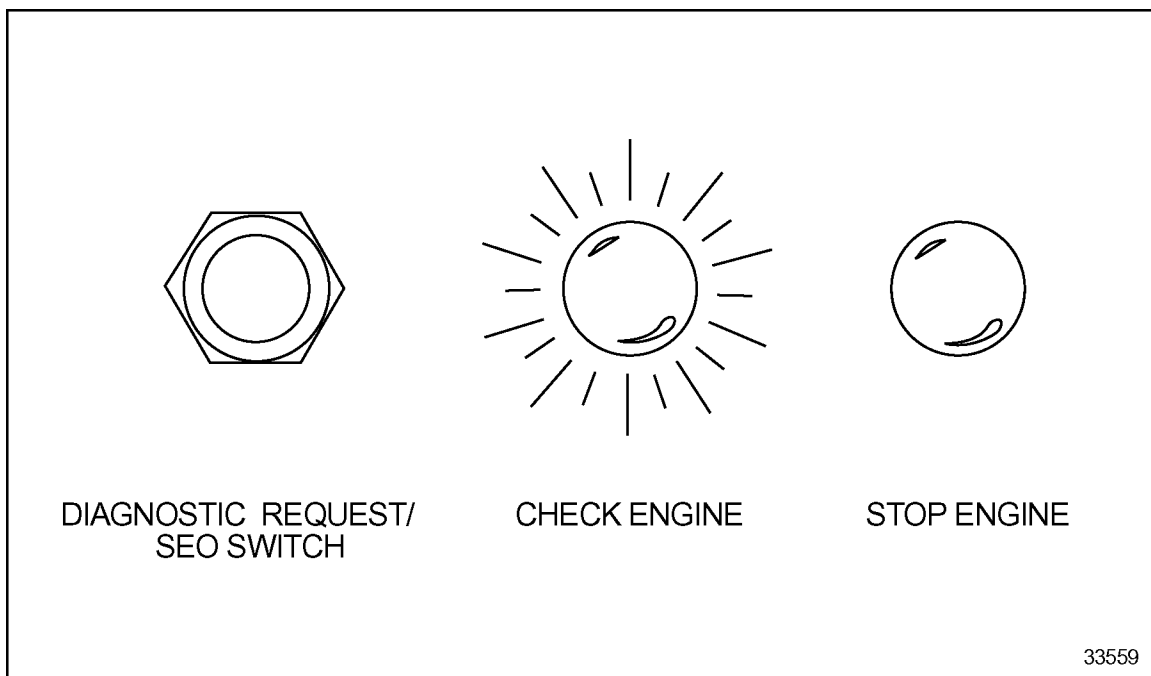

Figure 5-5 Typical Diagnostic Request/SEO Switch and Warning Lights
Instrument panel warning lights (see Figure 5-5), the Check Engine Light (CEL) and the Stop Engine Light (SEL), warn the engine operator. The CEL is an amber light and the SEL is a red light.
- ☐ Flashing the CEL and SEL with the Diagnostic Request Switch (may be combined with Stop Engine Override switch, see Figure 5-5)